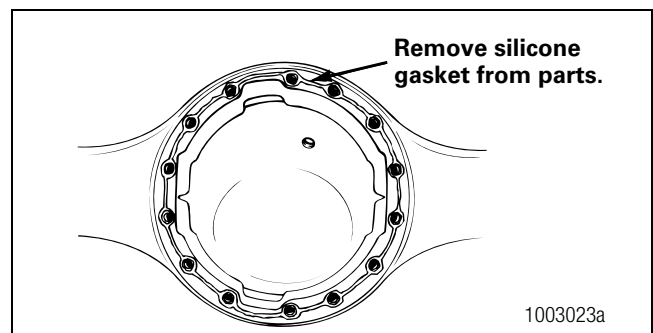

Figure 4.7
4. Clean the parts and apply new silicone gasket material where required when the axle or carrier is assembled. Figure 4.7.